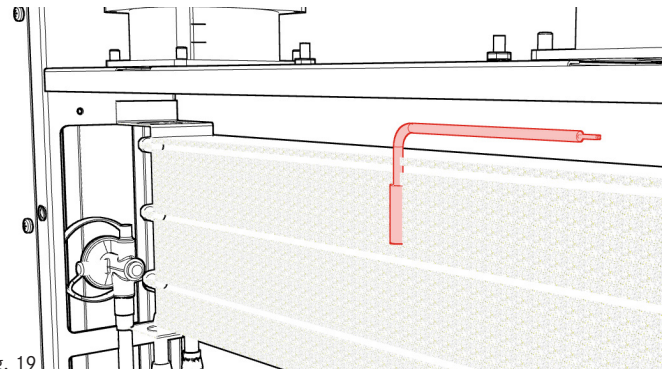

Fig. 19
3. Locate coil temperature sensor within top of evaporator. Note location of sensor between evaporator fins (Fig. 19).